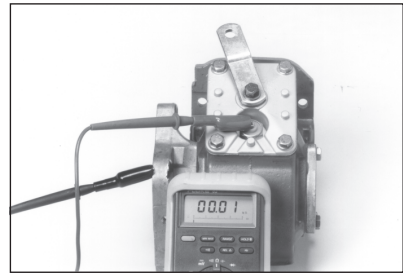

Fig. 24
3. Actuate shifting device and the meter or light\* should be actuated when P.T.O. gear is engaged (Fig. 24).